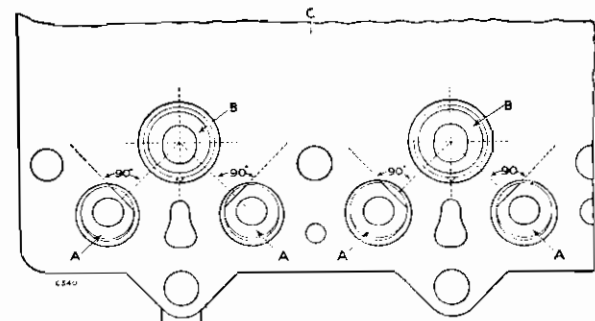

Fig. A-424—Correct position of push-rod tubes in relation to hot plugs
- If the push-rod tubes were removed, new tubes complete with new sealing rings, smeared with Silicone M.S.4 Compound, should be pulled into position, using tool Part No. 274402. Ensure that the chamfers on tube and in cylinder head are in full contact and that the "flat" of tube is at right angles to a line drawn between the centre of push-rod tube and centre of hot plug, as illustrated by Fig. A-424.